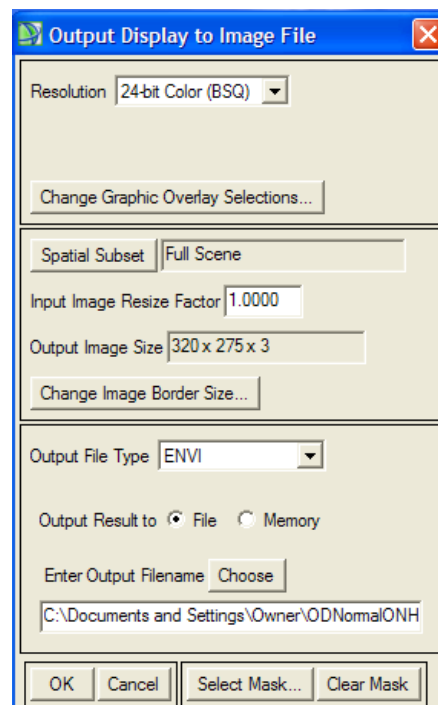

Figure 26. Output Display to Image File
- c. The Output Display to Image File dialog opens (see Figure 26)
- e. A portion of the image can be saved using "Spatial Subset". The number of samples (NS) is equal to the number of image columns. The number of lines (NL) is equal to the number of lines scanned, and to the number of image rows